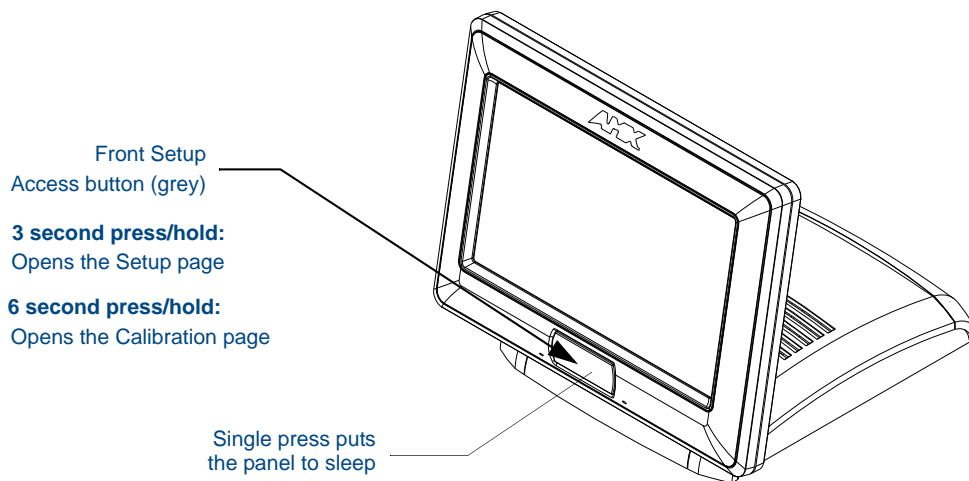
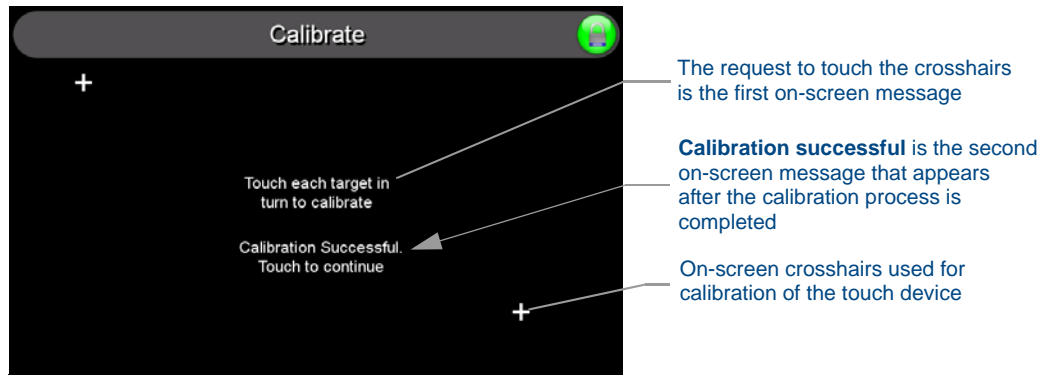

FIG. 21 Location of Front Setup Access button
FIG. 22 Touch Panel Calibration Screens
1. Press and hold the grey Front Setup Access button (FIG. 21) for **6 seconds** to pass-over the Setup page and access the Calibration setup page (FIG. 22).
2. Press the crosshairs (on the Calibration page) to set the calibration points on the LCD (FIG. 22).